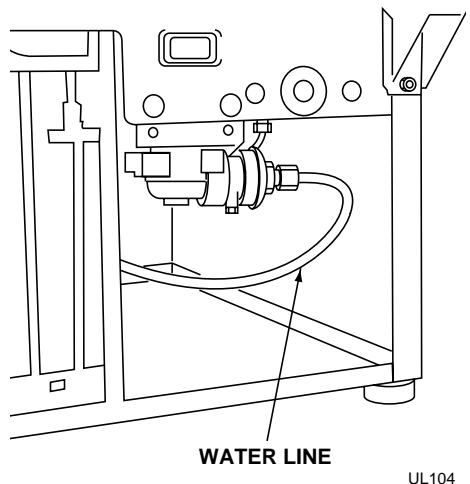

**Figure 4**
2. Locate the compression fitting and ferrule packed in the unit. Slide the compression fitting and ferrule over the 1/4 inch water supply line. Do not use thread sealing compound or tape. Using two wrenches, tighten the compression fitting on the supply line (see Figure 4).